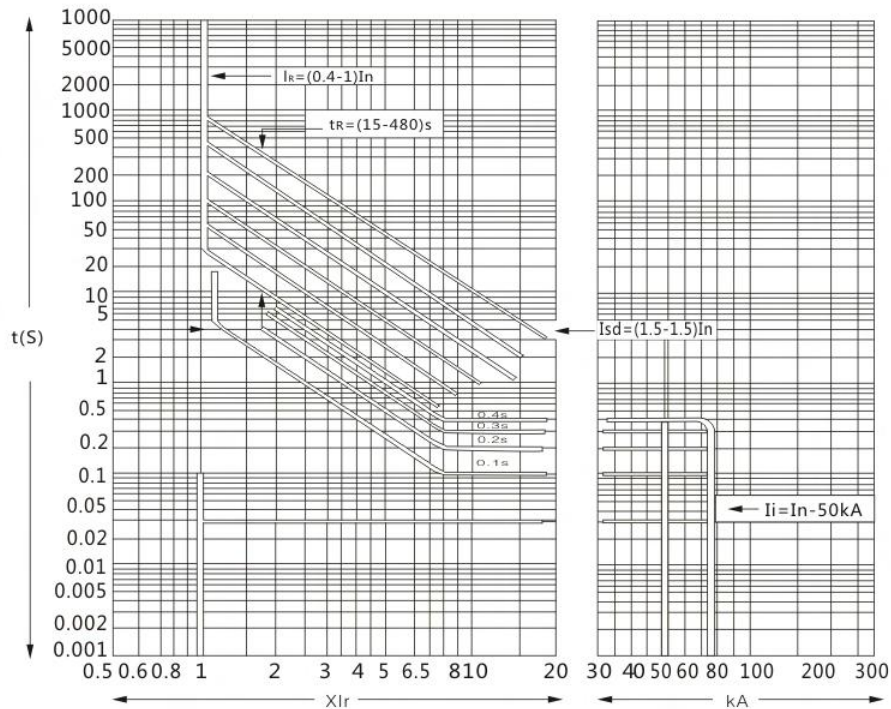
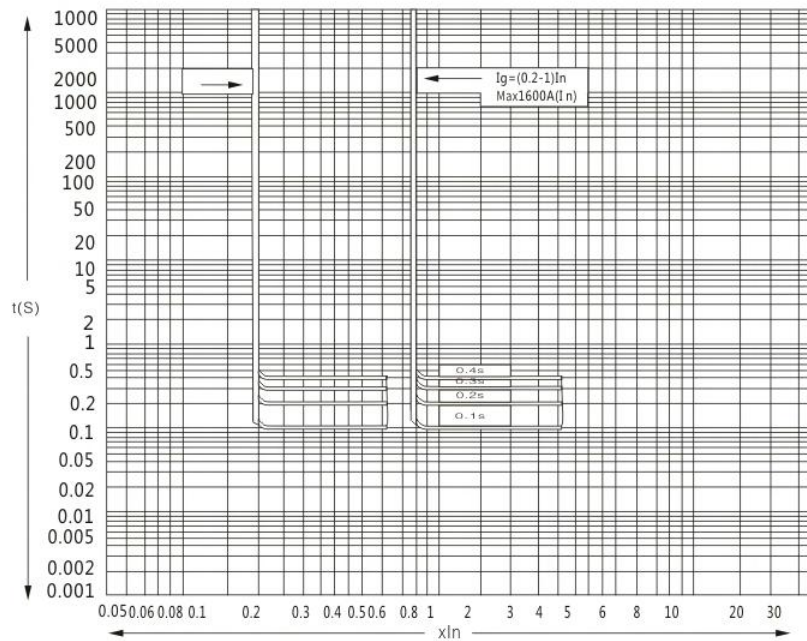

Figure 1 Overcurrent release protection characteristic curve
Figure 2 Ground fault protection characteristic curve
5.1 The characteristic curve of over current release protection is shown in Figure 1, and the characteristic curve of ground fault protection is shown in Figure 2.